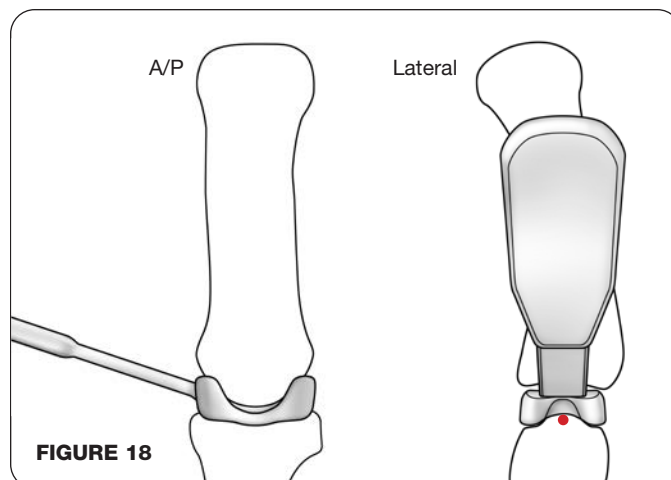

FIGURE 18
- There is center contact of the implant on both the metacarpal and trapezium (**FIGURE 18**).